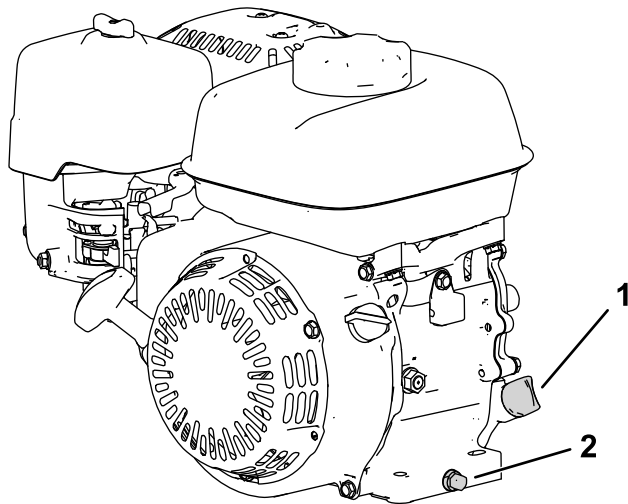

Figure 10
2. Position the machine so that the engine is level, and clean the area around the oil-fill tube (Figure 10).
3. Remove the drain plug (Figure 10).